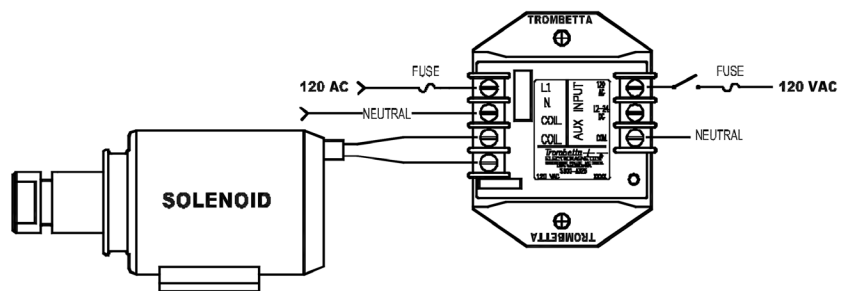
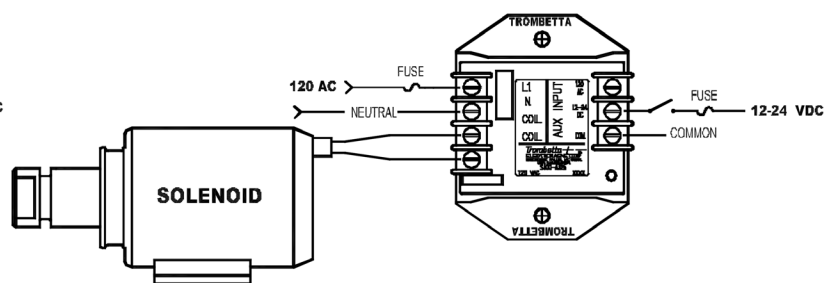

Figure 2
Figure 3
**Figure 1** shows a typical wiring diagram when controlled by a low current, 120VAC signal to the Aux input. **Figure 2** shows a typical wiring diagram controlled by a low current, 12 to 24 VDC signal to the Aux input. **Figure 3** is controlled by the same signal which provides power to the solenoid.